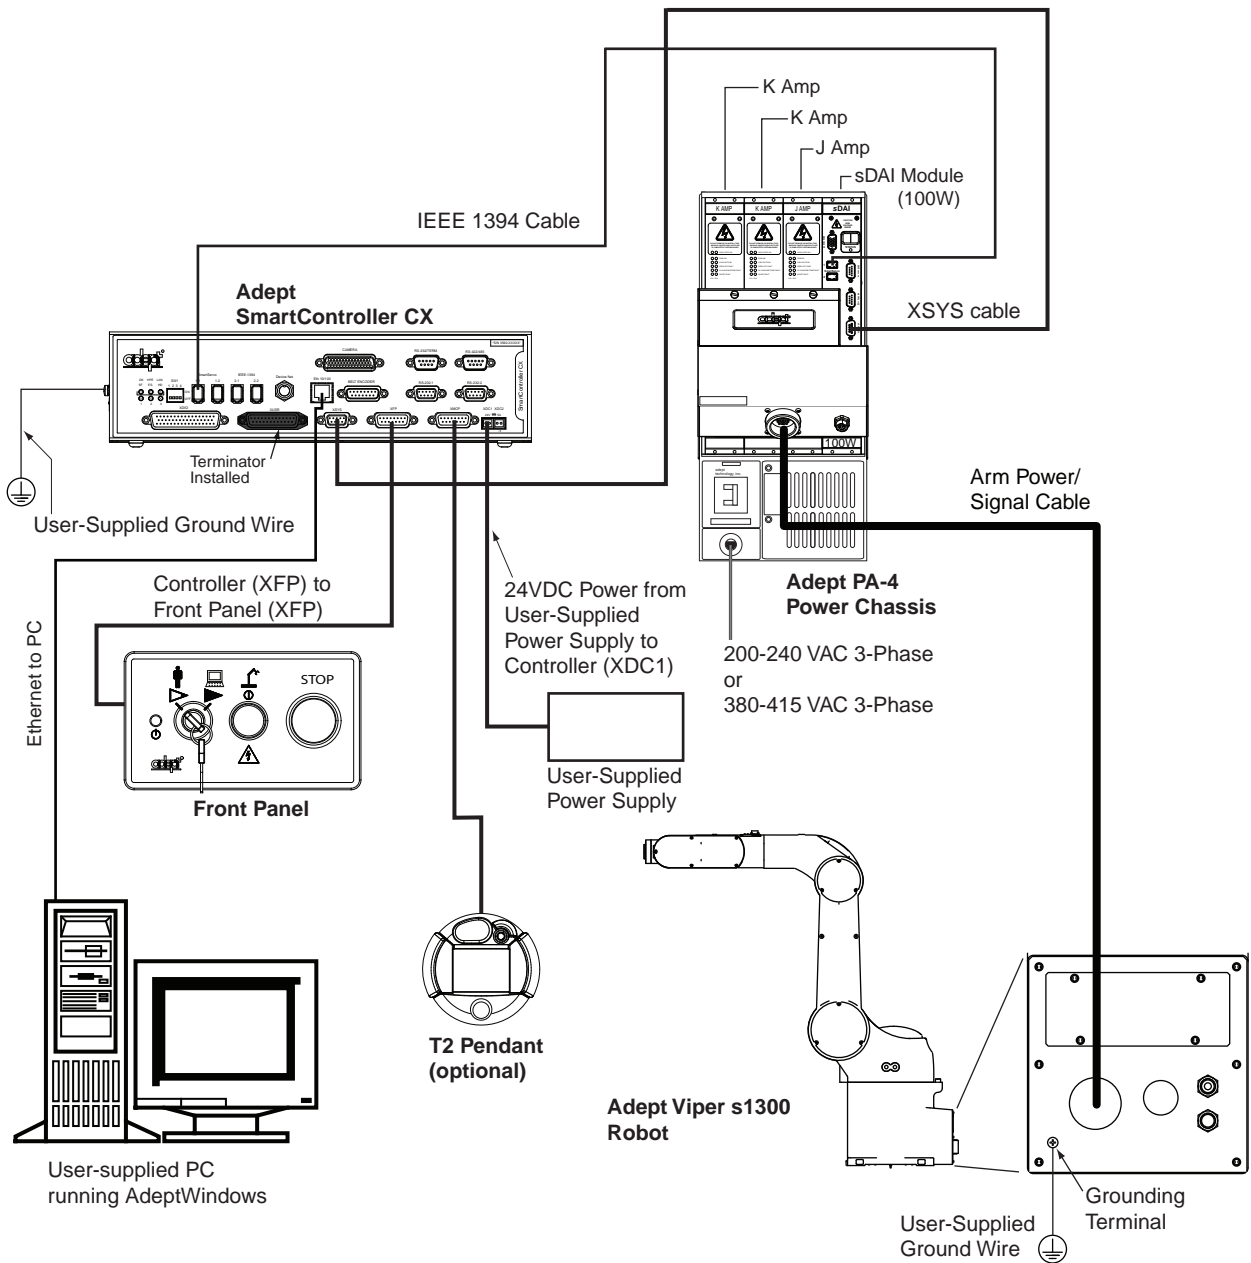
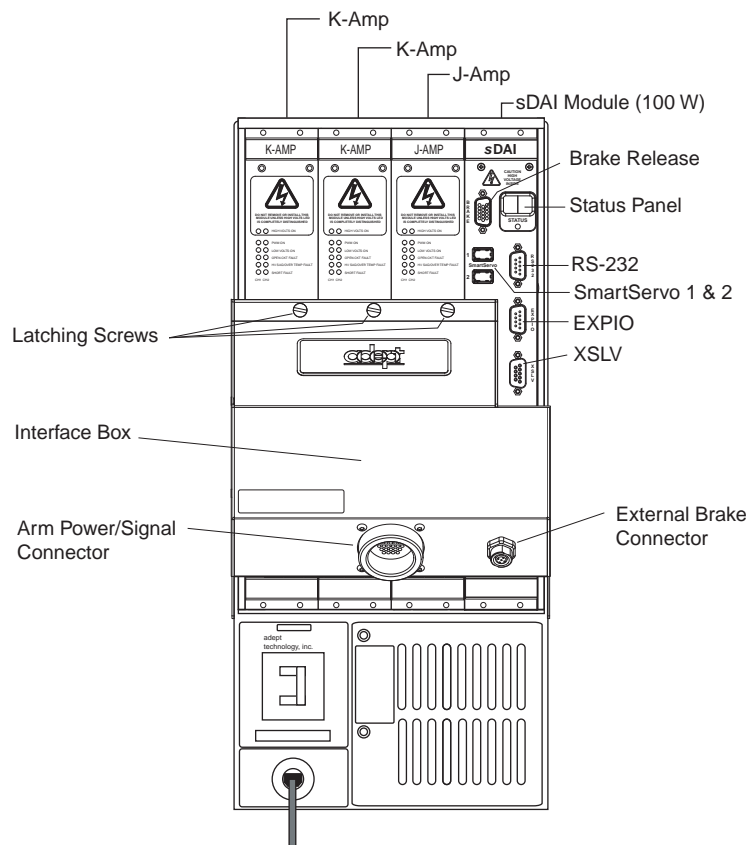

Figure 3-1. System Cable Diagram for Adept Viper s1300 Robot
Figure 3-2. Adept PA-4 Power Chassis with sDAI Module
3. Install one end of the IEEE 1394 cable into the SmartServo port 1.1 connector on the SmartController, and install the other end into the SmartServo port 1 connector on the sDAI module in the PA-4. See **Figure 3-1 on page 33** and **Figure 3-2 on page 36**.